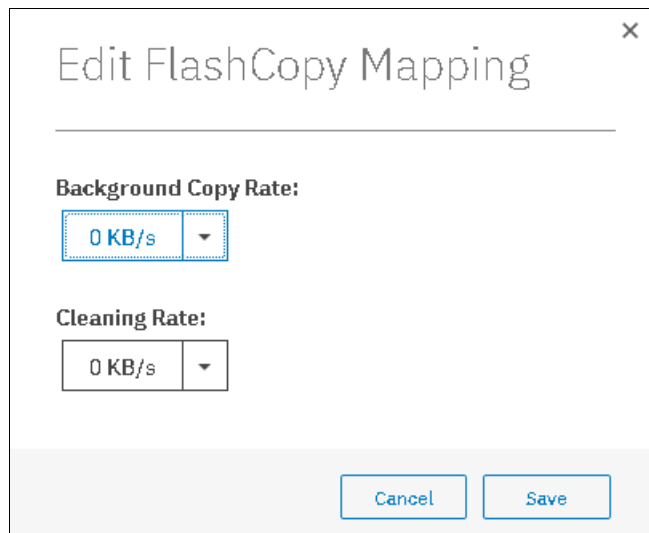

Figure 10-49 Modifying Background Copy Rate
3. In the Edit FlashCopy Mapping window, you can modify the Background Copy Rate and cleaning Rate from the drop-down, as shown in Figure 10-49.